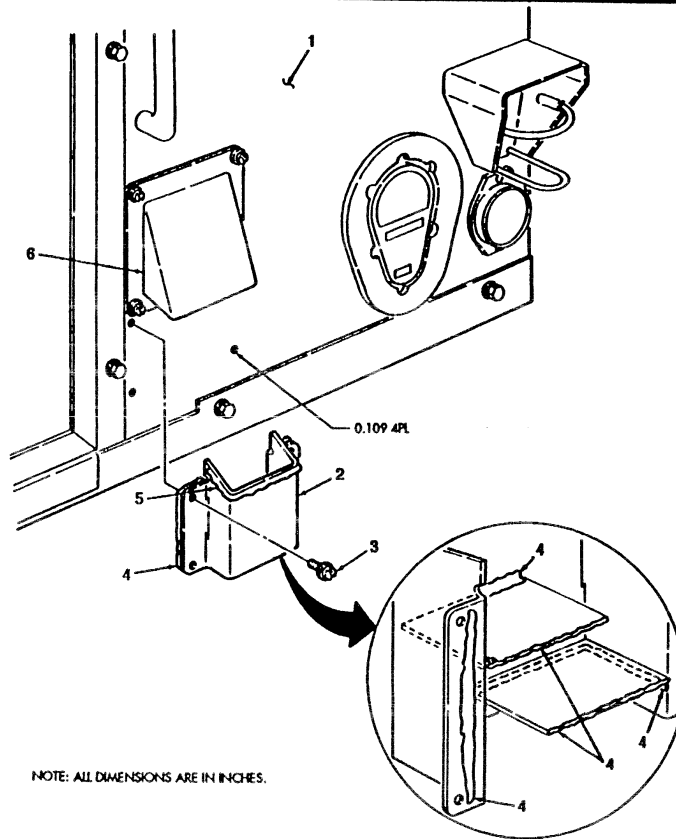

FIGURE 3-35
- (8) Cut out area (5) in right rear enclosure (1).
- (9) Apply a bead of NSN 6850-01-159-4844 RTV sealant (4) on ventilator (2).
- (10) Secure ventilator (2) to right rear enclosure (1) using four NSN 5305-01-315-9882 screws (3).
- (11) Using light diverter (2) as a template, locate, mark, and drill four 0.109" diameter holes 0.750" deep in right rear enclosure (1). (see figure 3-35)
- (12) Apply beads of RTV sealant (4) on light diverter (2).
- (13) Secure light diverter (2) on right rear enclosure (1) using four screws (3).
- (14) Apply a bead of RTV sealant (5) between ventilator (6) and light diverter (2).
- (15) Spot paint as necessary. (Refer to TM43-0139).